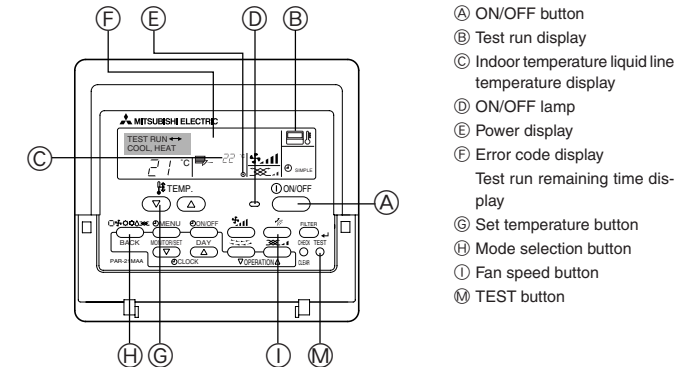

Fig. 8-1
8.2. Test run (Using wired remote controller) (Fig. 8-1)
- ① Turn on the power at least 12 hours before the test run.
- ② Press the [TEST] button twice. ➡ "TEST RUN" liquid crystal display
- ③ Press the [Mode selection] button. ➡ Make sure that wind is blown out.
- ④ Press the [Mode selection] button and switch to the cooling (or heating) mode. ➡ Make sure that cold (or warm) wind is blown out.
- ⑤ Press the [Fan speed] button. ➡ Make sure that the wind speed is switched.
- ⑥ Check operation of the outdoor unit fan.
- ⑦ Release test run by pressing the [ON/OFF] button. ➡ Stop
- ⑧ Register a telephone number.